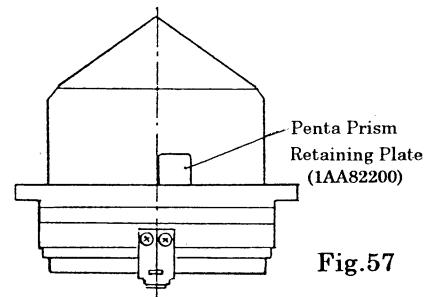

Fig.57
- * Position the Penta Prism Retaining Plate (1AA82200) a little to the right of the center as viewed from front. (See Fig. 57)